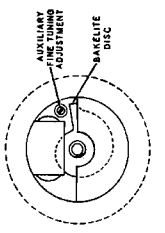

Fig. 5—LOCATION OF PRE-SET CONTROLS
The Preset controls are those which require adjustment at the time the receiver is installed and they rarely need attention thereafter. There are six of these controls, one of which is located at the back of the chassis (see Figure 10). The remaining five controls are accessible by removing the name plate enclosure and the channel number escutcheon from the front panel (see Figure 5).
AUXILIARY FINE TUNING ADJUSTMENT—If it is found that the tuning range of the "Fine Tuning" control is inadequate to permit correct tuning of a station in its assigned channel, then adjustment of the "Auxiliary Fine Tuning" screw will be necessary. This special screw is accessible after removal of the channel number escutcheon as shown in Figure 5. That can be accomplished by first taking off the "Channel Selector" knob and then the "Fine Tuning" knob by merely pulling them forward. Grasp rim of escutcheon to pull it away from the cabinet. Adjustment of the "Auxiliary Fine Tuning" screw may now be undertaken in accordance with the following procedure:
- Note location of "Auxiliary Fine Tuning" adjustment screw on receiver chassis—see Figure 5. Also note that as the main tuning shaft (outer brass shaft) is rotated, the tongue of a bakelite disc moves in front of the opening for the "Auxiliary Fine Tuning" screw. This disc should be positioned by turning the brass shaft so that the tongue of the bakelite disc is just approaching the lower side of the opening as illustrated in Figure 5.